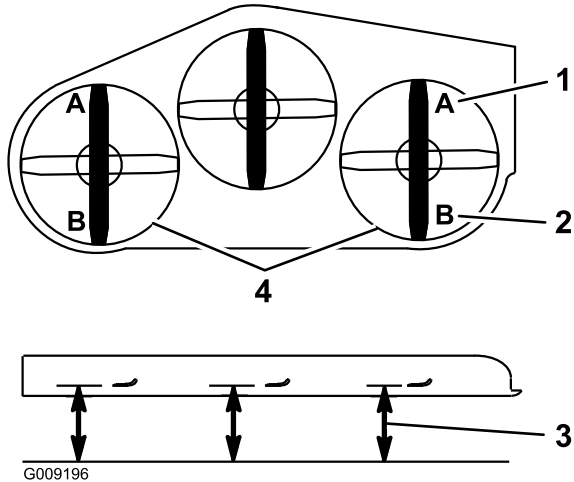

Figure 90
9. On both sides of the deck, measure from the level surface to the front tip of the blade (Position A). The measurement should read 3 inches (7.6 mm) (Figure 90).
15. On both sides of the deck, measure from the level surface to the back tip of the blade (Position B). The measurement should read 3 1/4 inches (8.3 cm) (Figure 90).